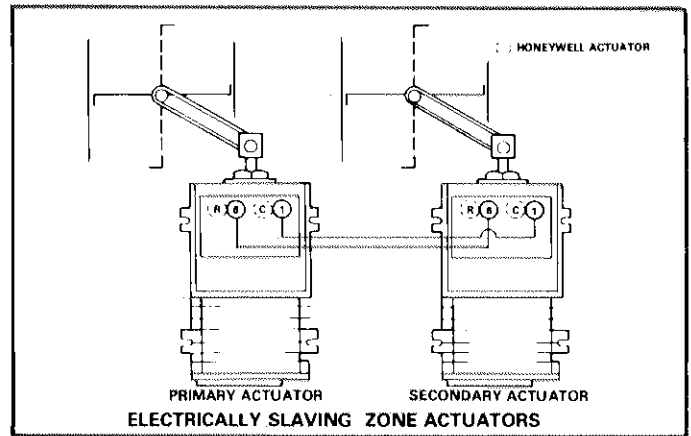

FIGURE 105
- 2 - Connect terminal (1-Ranco, C-Honeywell) of secondary motor to the same terminal of primary motor. Refer to Figure 105.